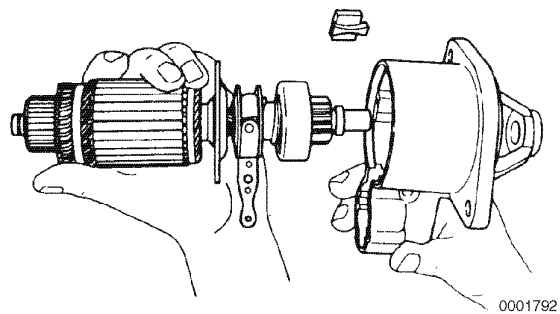

Figure 10-10
13. Pull out the armature assembly from the gear housing (**Figure 10-10**).